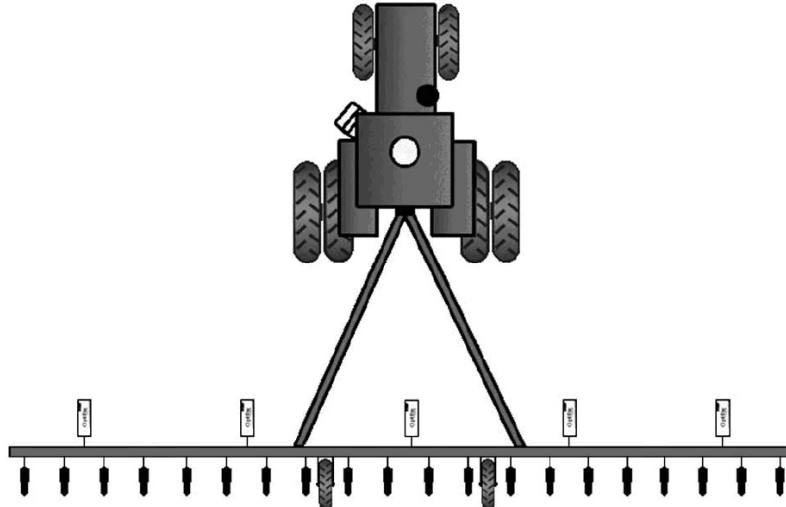

Figure 6. Example OptRx Sensor Mounting Locations
1. Select mounting locations for brackets on Toolbar or Sprayer Boom so the sensors are evenly spaced. See *Figure 6* for reference.
The locations of the outer most sensors on Figure 6 are not on the ends of the boom. The sensors should be mounted so each sensor is spaced over equal lengths of the boom. In Figure 6, each sensor is mounted with a total of 4 rows per sensor, 2 rows on each side of the sensor.
2. Mount bracket on spray boom or toolbar so the sensor will be directly over a row with an unobstructed view of the crop. See *Figure 6* for reference. Select mounting location so sensors are not damaged during boom or toolbar
3. Install OptRx sensor (Figure 6) on sensor brackets. Hardware necessary for this procedure can be found in OptRx sensor kit.